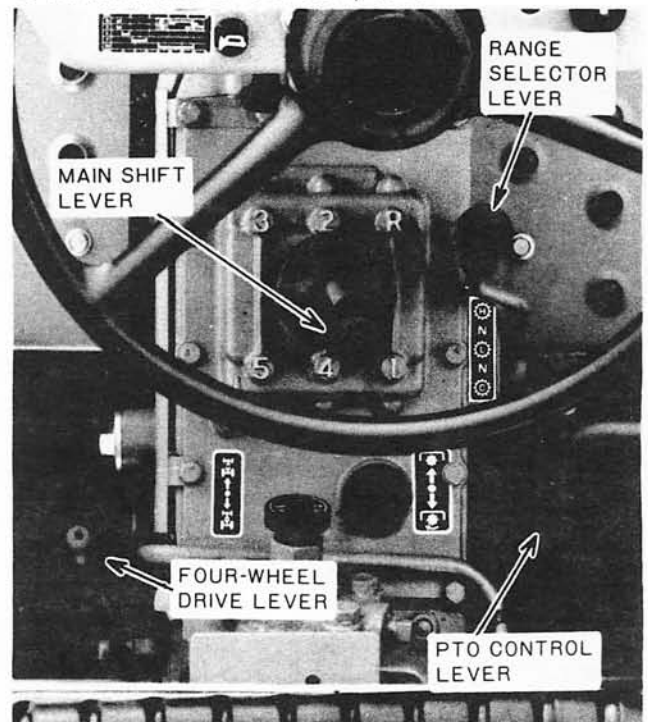

Figure 8 — Transmission and PTO Controls
The transmission main shift lever and range selector lever are shown in Figure 8. A diagram showing the shift pattern is cast into the transmission cover.
A creeper range accessory with a 5.5:1 ratio is available which provides an additional 5 forward and 1 reverse speeds or a total of 15 forward and 3 reverse speeds. The control is located on the right side of transmission housing as part of the range selector lever. Moving the lever full rearward past low range engages (L) the creeper range (C), Figure 8.
The shift lever for the four-wheel drive is located on the top left-hand front of the rear-axle center housing, Figure 8.
The transmission PTO control lever is shown in Figure 8. The lever engages and disengages the PTO. If the tractor engine is running, always depress the clutch pedal fully before moving the lever. Move the lever rearward or up to engage the PTO and forward or down to disengage the PTO.
The four-wheel drive is engaged and disengaged through the use of the lever on the top left hand front of the rear-axle center housing, Figure 8.